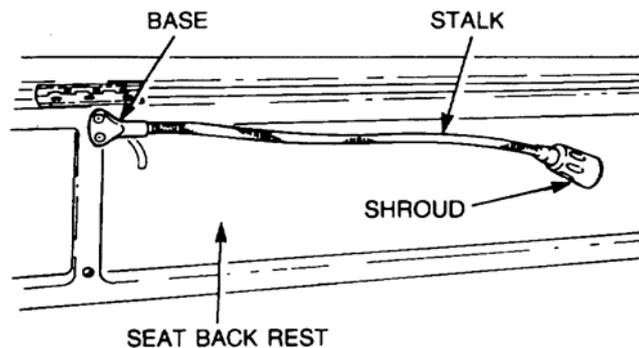

Figure 9 Casualty Observation Stalk Light Bulb Replacement
- a. Slide the shroud cover down the stalk to allow access to the bulb (refer Figure 9).
- Remove the two screws securing the light unit base to the seat back rest/upper locker (refer Figure 9).